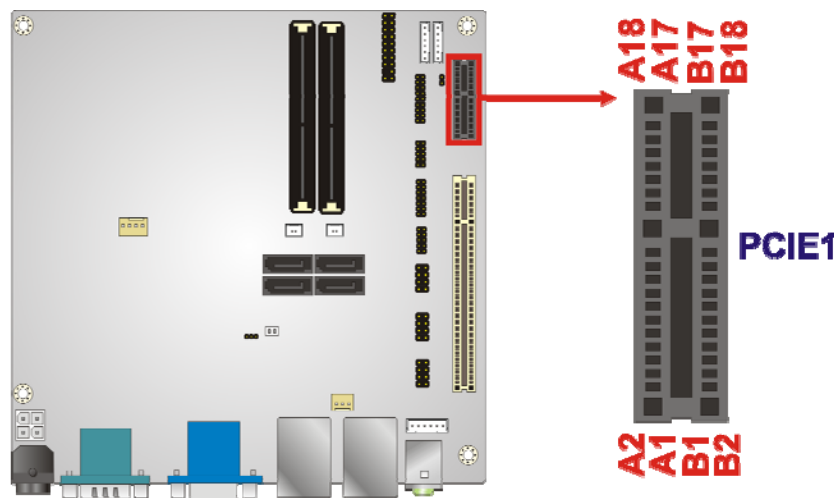

Figure 3-13: PCIe x1 Slot Location
- CN Location:** See **Figure 3-13**